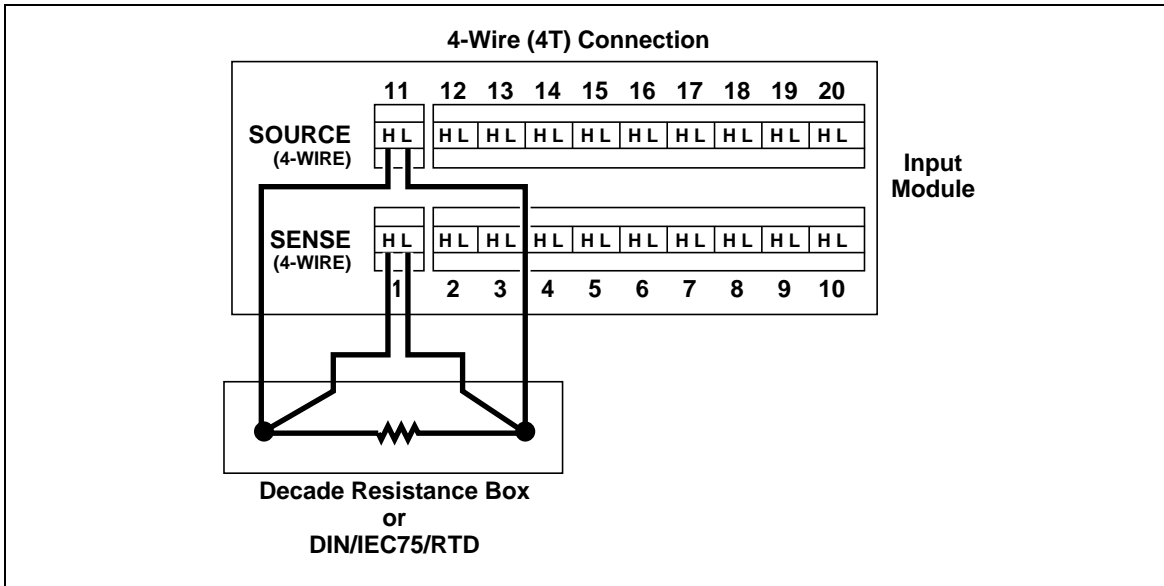
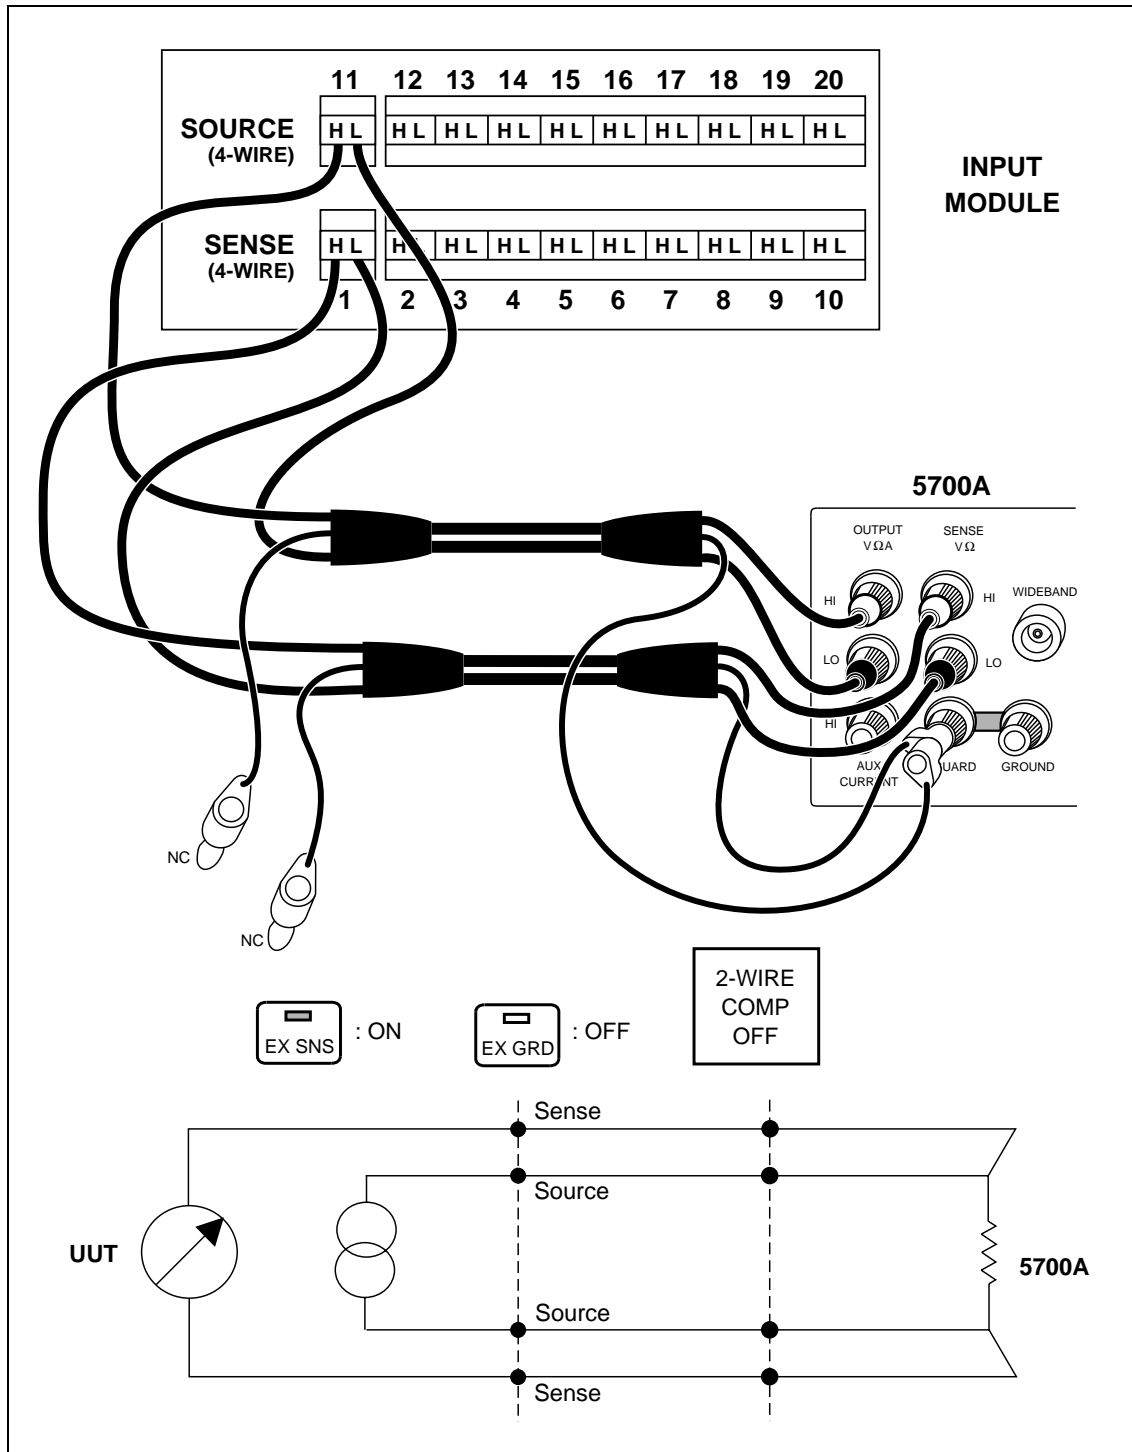

Figure 4-3. Four-Terminal Connections to the Universal Input Module (Resistor)
Figure 4-4. Four-Terminal Connections to the Universal Input Module (5700A)
1. **Connect the Resistance Source to Channels 1 and 11** Remove the Universal Input Module from the instrument and connect a cable from the Decade Resistance Source to the Universal Input Module terminals for channel 1 (Sense) and channel 11 (Source) as shown in Figure 4-3. Reinstall the Universal Input Module. You may also use the 5700A resistance calibration output instead of the Decade Resistance Source. Tables are provided for both connections. Refer to Figure 4-4 for the 5700A four-wire connections.
The following RTD accuracy test applies to the 2640A and uses the four-wire connection (see Figure 4-3).
1. **Connect the Decade Resistance Source to Channels 1 and 11** Remove the Universal Input Module from the instrument and connect a cable from the Decade Resistance Source to the Universal Input Module terminals for channel 1 (Sense) and channel 11 (Source) as shown in Figure 4-3.
The following RTD accuracy test applies to the 2645A and uses the four-wire connection (see Figure 4-3).
The following RTD accuracy test applies to both the 2640A and 2645A and uses the four-wire connection (see Figure 4-3).
1. **Connect the RTD Source to Channels 1 and 11** Remove the Universal Input Module from the instrument and connect the RTD to the Universal Input Module terminals for channel 1 (Sense) and channel 11 (Source) as shown in Figure 4-3.